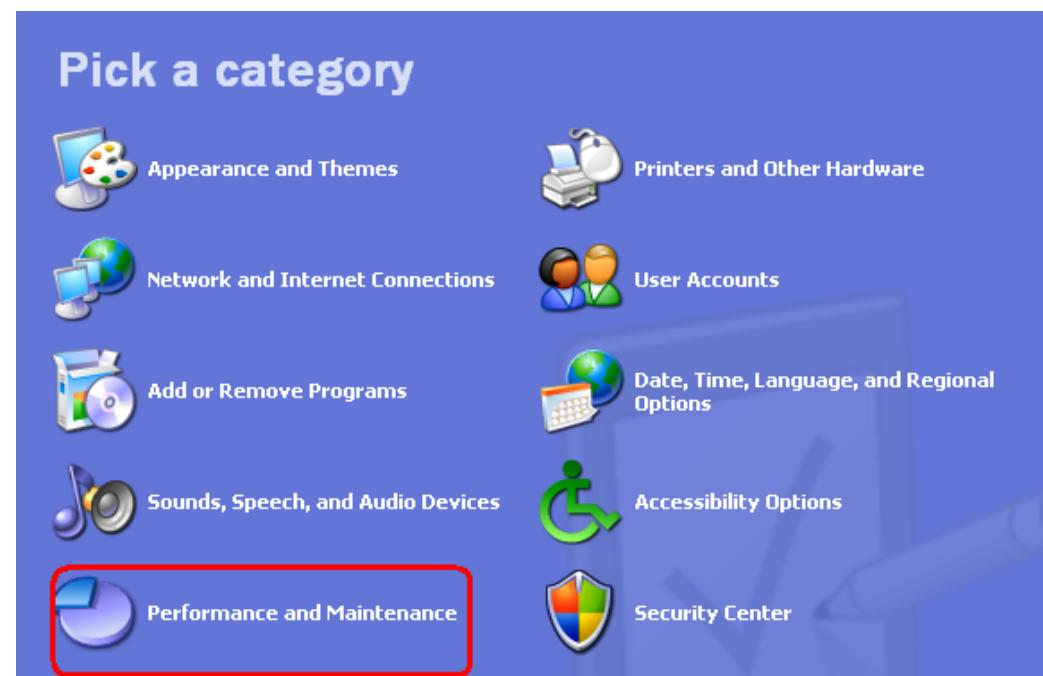

Figure 7-2: Performance and Maintenance
Step 3: The Window in **Figure 7-2** appears.
Step 4: Double click the PERFORMANCE AND MAINTENANCE option in **Figure 7-2**.